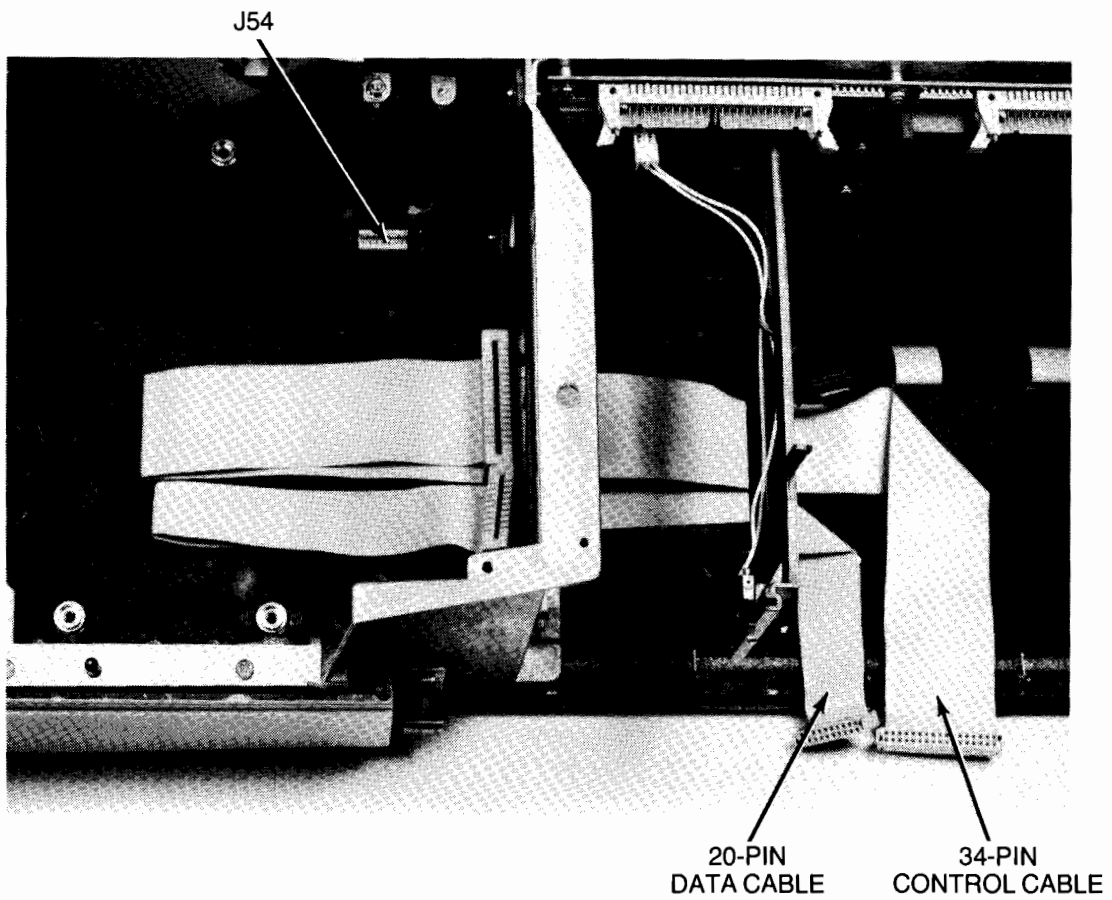

Figure 3
11. Place the two ribbon cables in the bottom of the mainframe base as shown in Figure 3.